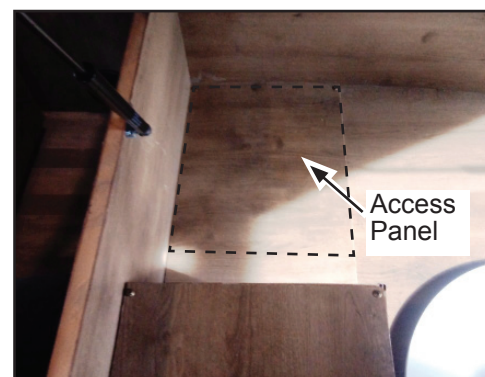

Figure 6
10. Go inside the motorhome, raise the hinged bed top, and remove the screws from the panel to gain access to the area in which the main under-floor wire harness enters the coach. See Figure 6 for the access panel location.